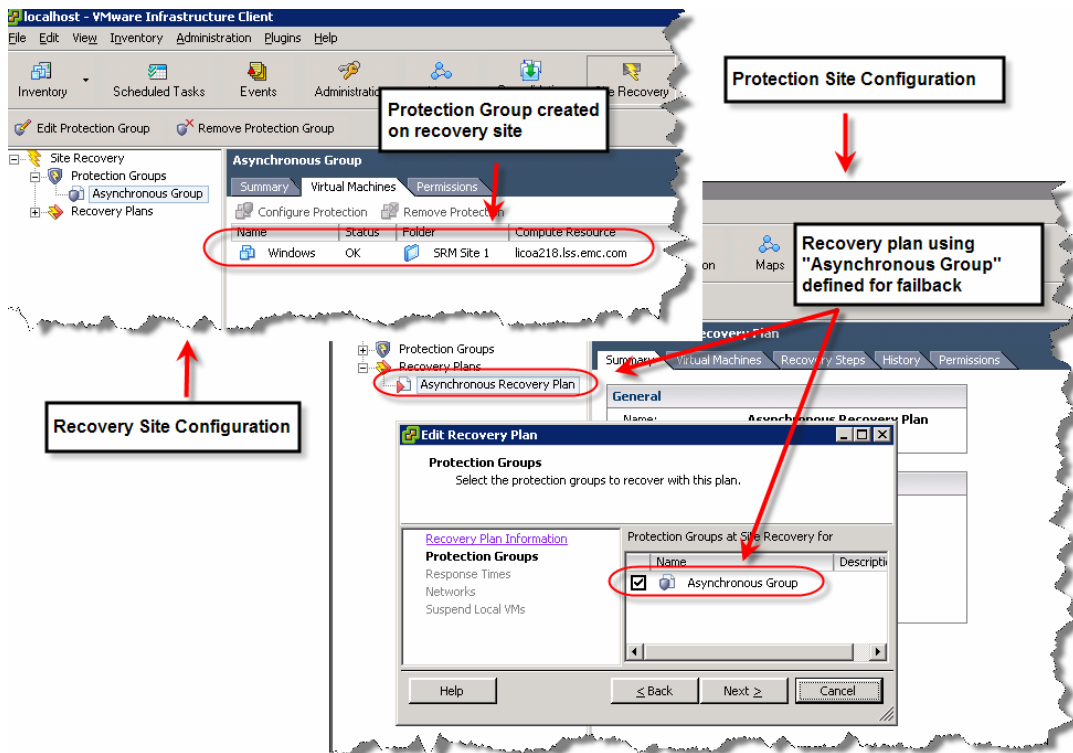

Figure 27. Failing back from the recovery site to the protection site
4. A new protection group should be defined on the VMware Site Recovery Manager Server at the recovery site. A recovery plan utilizing the protection group should then be created on the VMware Site Recovery Manager at the protection site. The procedure to create protection groups and recovery plans is beyond the scope of this white paper. Readers should consult VMware documentation available on the VMware website for further details. However, to elucidate the failback process, as shown in Figure 27, the protection group and recovery plan were created for the "srm_async" datastore that was failed over.